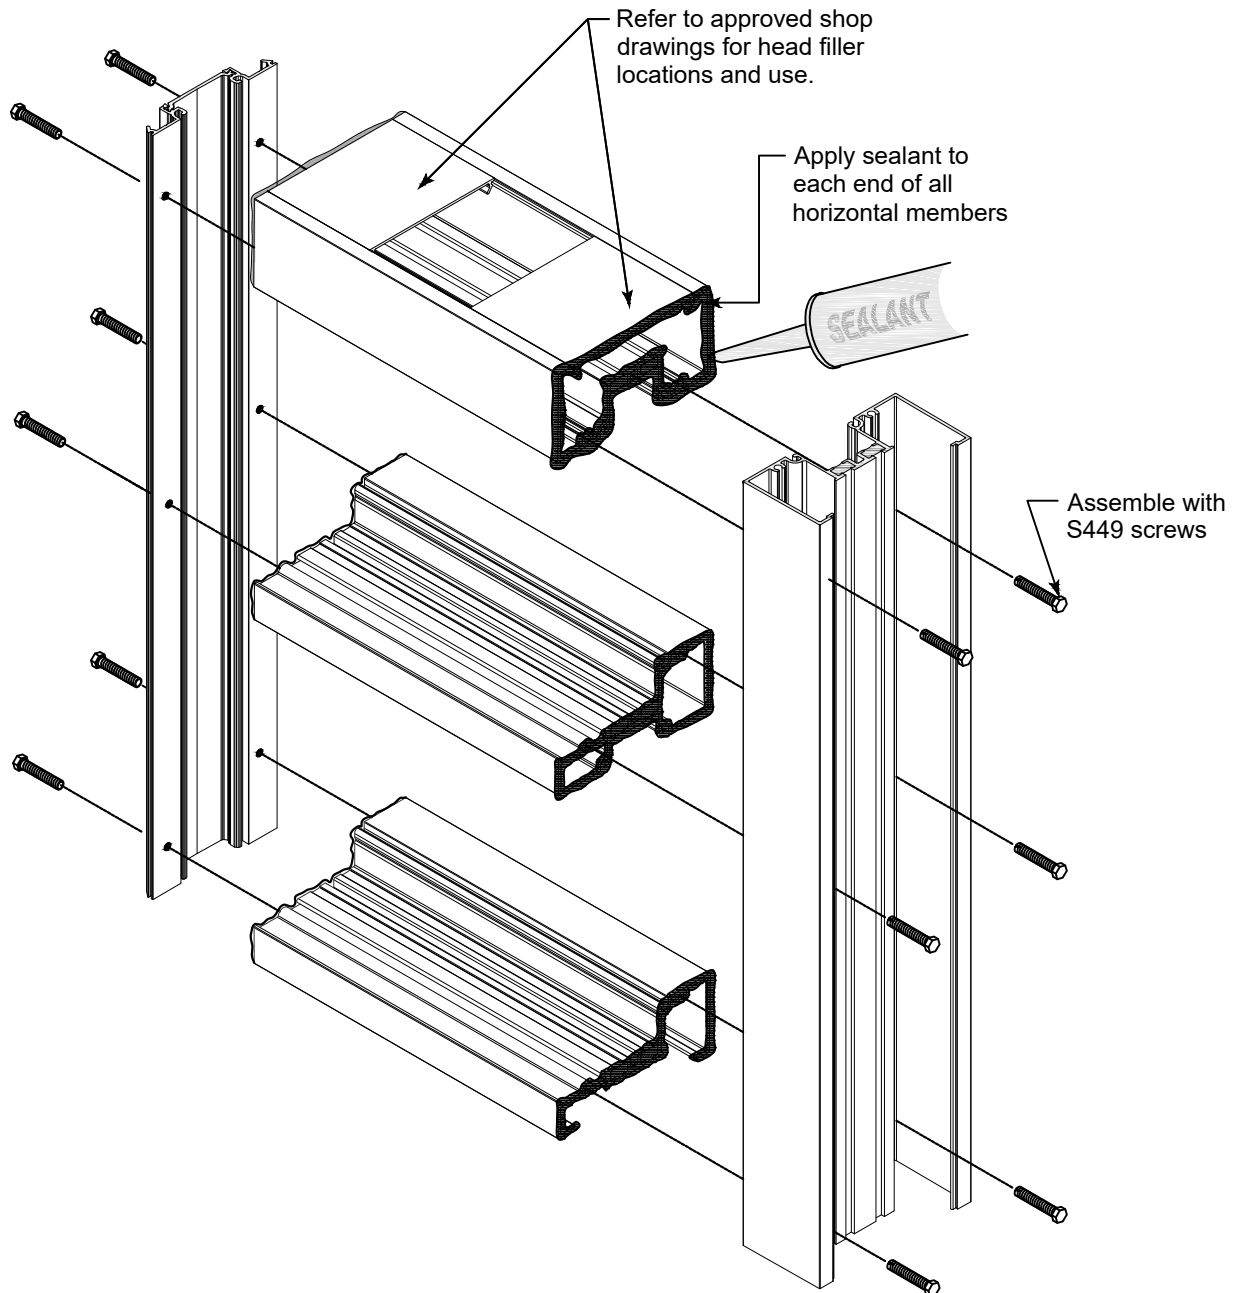

Fig. 25.1
- B. Apply sealant to ends of the head, horizontal and sill members prior to attaching to the vertical members. See Figure 25.1.